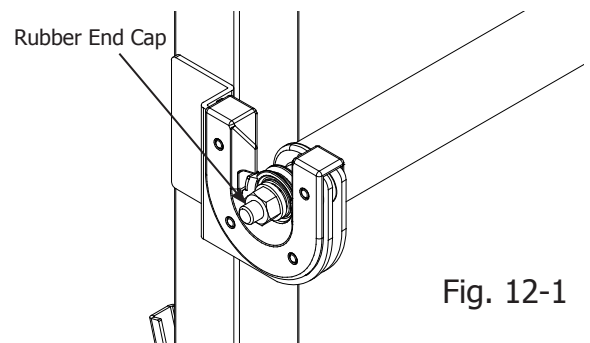

Fig. 12-1
12-1: Slide one (1) rubber end cap onto the end of each bolt sticking out of the pole ends, as shown in Fig. 12-1. If the poles are assembled properly, there should be approximately 3/8"-1/2" of metal threads showing beyond the ends of each pole.